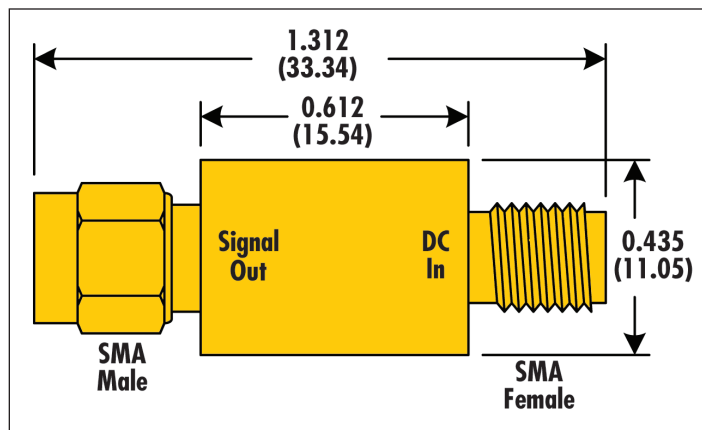

Figure 3. Mechanical dimensions of the RFPRO33 family.
**Technology Solution** — Crystek Corporation has recently addressed this technology challenge with the development of a new line of SAW oscillators. The RFPRO33 family is packaged in a traditional attenuator SMA housing (see Figure 1.) But it is more than just a re-packaging. It is an economical product that offers phase noise performance of -133 dBc/Hz at 10 kHz offset (see Figure 2), a feat unmatched by bench top signal sources costing thousands of dollars. The user simply needs to connect +3.3 V to the female SMA, and it will output a 1 GHz (+7 dBm min. into 50Ω) signal on the male SMA. Figure 3 shows the mechanical dimensions of this family of products.